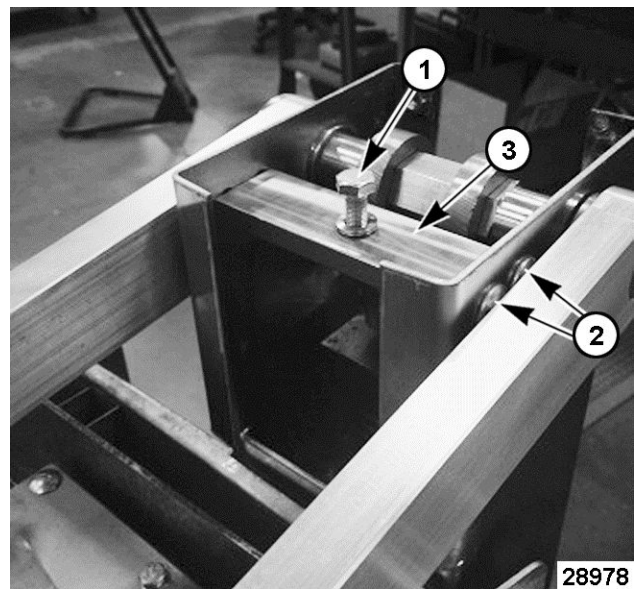

Fig. 4
4. Loosen bump stop bolt (1, Fig. 4) and remove screws (2, Fig. 4) from each side that secures bump stop plate (3, Fig. 4) to rear housing.